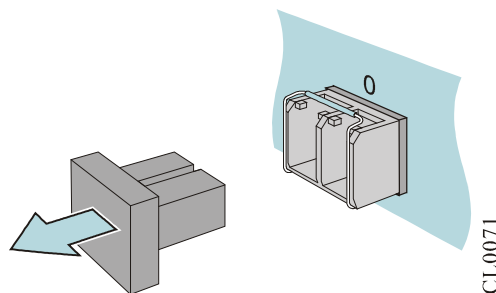

Figure 4-16 Remove the dustproof plug of the SFP module
- Step 3: Remove the dustproof plug of the SFP module, as shown in Figure 4-16.